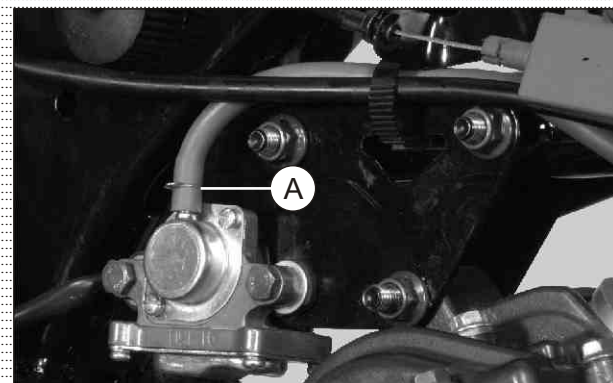

Fig. 4.48
- Remove clip (A) from the hose air cut valve and pull out the hose from secondary air injection valve. (Fig. 4.48)